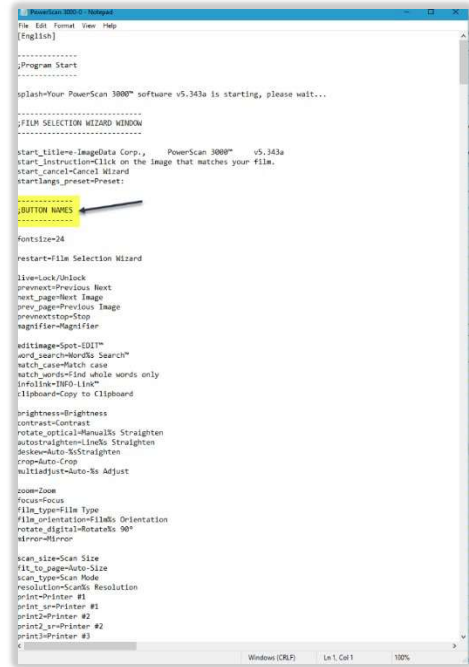

Figure 63
- Find the button name to be changed under the `; Button Names` section. *Figure 63*